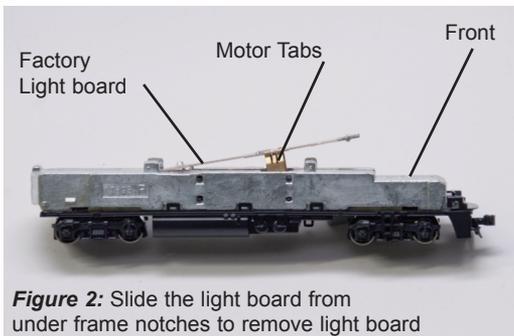

Figure 2: Slide the light board from under frame notches to remove light board
2. Carefully remove the factory light board by sliding it toward the front of the locomotive. Then gently lift the board out of the frame. Be careful not to bend or damage the motor tabs. (Figure 2.)